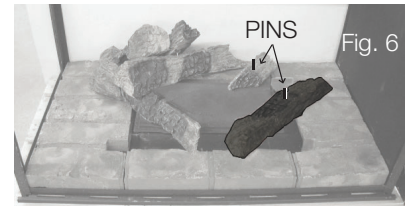

Fig. 6
- Place log #6 onto the pin located on the right side corner of the burner, then place one pin into middle of the log #6 and log #5 (**FIG.6**).